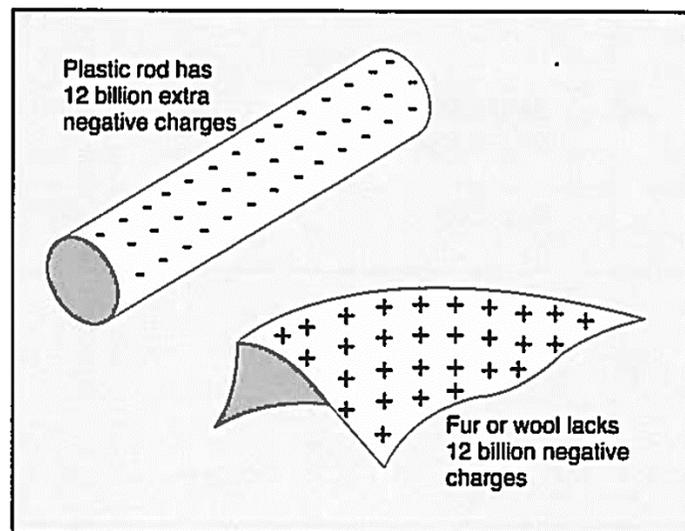

Figure 1.6: Charge Redistribution on a Plastic Rod
- 1-40 For example, if you rub a piece of plastic with fur or wool, electrons are stripped away from some of the atoms in the wool and transferred to the plastic. The plastic then becomes *negatively* charged, because it has an excess of electrons. The fur or wool becomes *positively* charged, because it has a deficiency of electrons. Figure 1.6 shows this redistribution of charge.